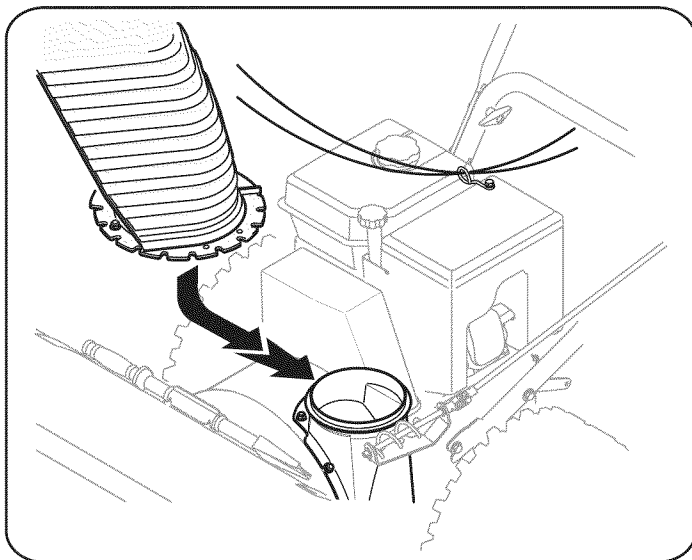

Figure 5
2. Place chute assembly onto chute base as shown in Figure 5. Make sure that the chute notches engage with the spiral end of chute directional control, and the two flange keepers are beneath the flange on the chute base.
4. If not already done, slip the cables that run from the handle panel to the discharge chute into the cable guide on top of the engine. See Figure 5.